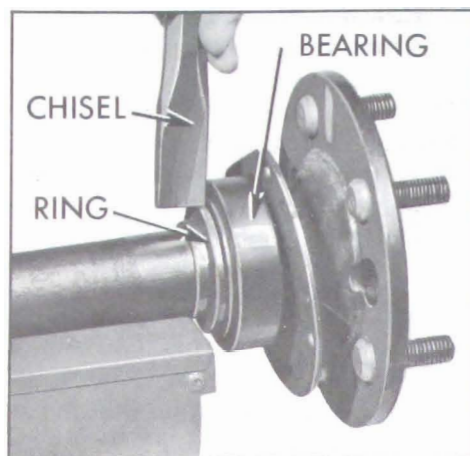

Fig. 6-49—Removing Rear Wheel Bearing Retaining Ring
1. Notch wheel bearing retaining ring in 3 or 4 places with a chisel. See Figure 6-49. Retaining ring will expand so that it can be slipped off. CAUTION: Axle shaft may be nicked if ring is cut completely through.